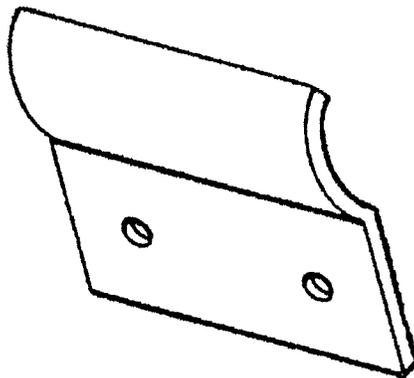

Figure 5-9. Fitted Holder
- i. The fitted holder (Figure 5-9) is molded to the shape of the item it is intended to support. It works well on speed handles, combination wrenches, and hacksaws when mounted on vertical panel surfaces.